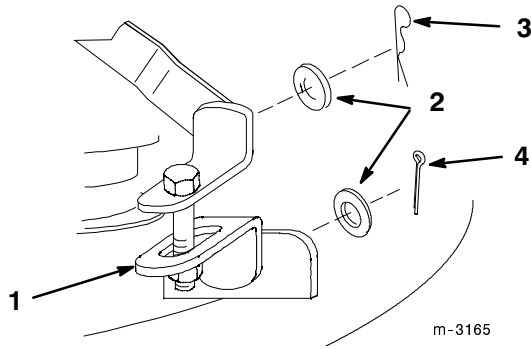

Figure 6
8. Install adjustable link between front bracket and lift arm with (2) 3/8" washers, a 2-9/16" hairpin cotter, and a 1" cotter pin (Fig. 6).